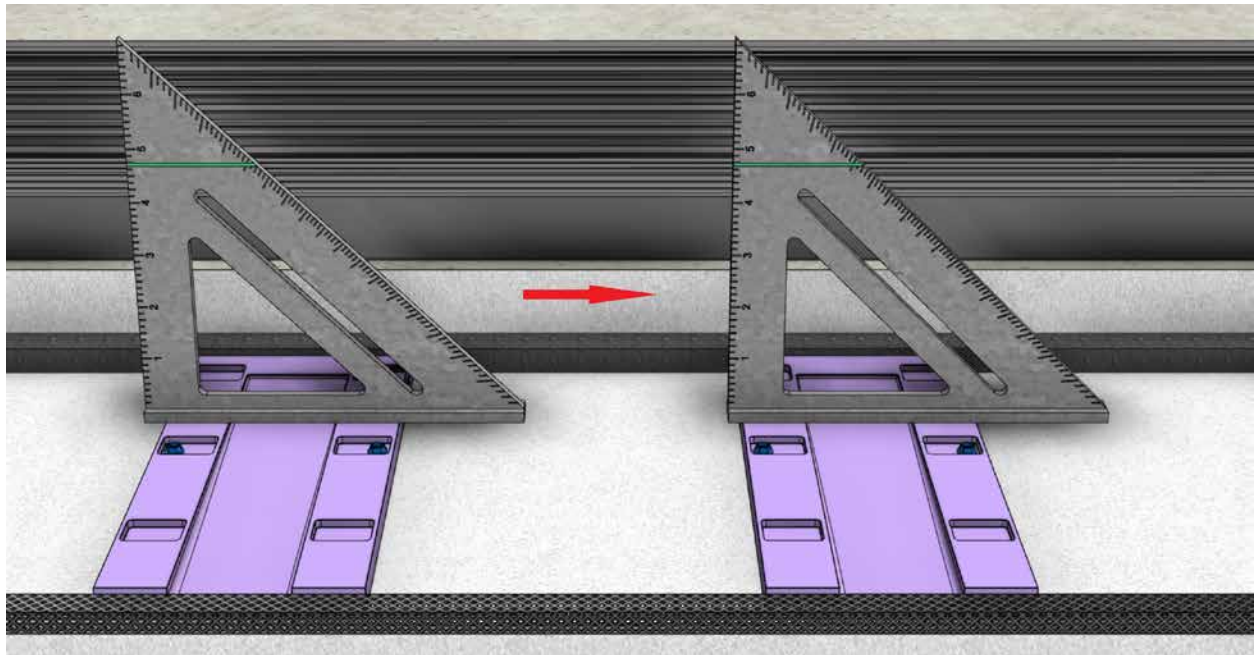

Fig 16
- Ensure that all the drainage shims are all level to one another across the entire Rough Opening, left to right. Use a laser level and a speed square or carpenters' square and check each shim for level (Fig. 16).